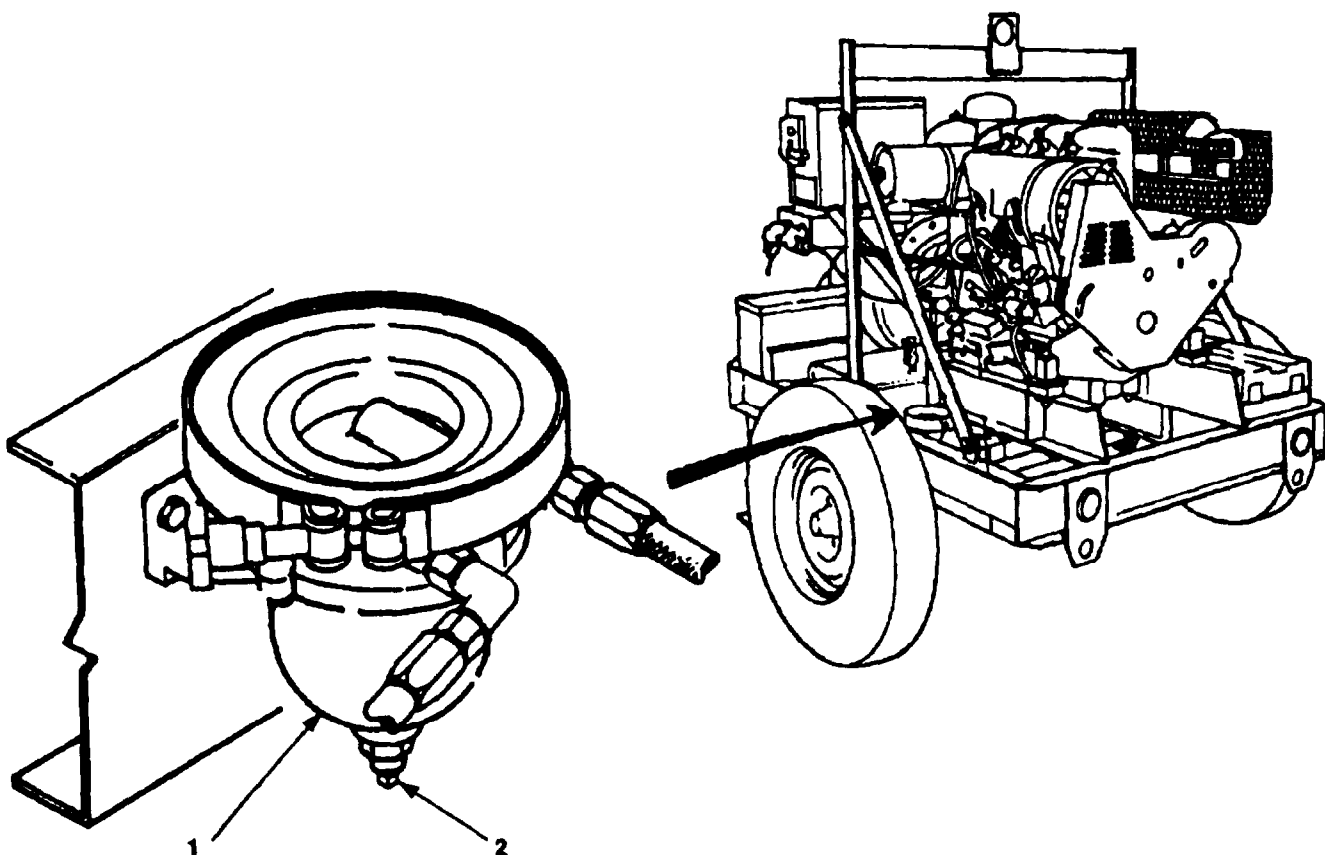

Figure 3-3. Water Separator Servicing (Models 350 PAW and W-87012).
- a. Place suitable container under water separator (figure 3-3 or 3-3.1).
- b. On models 350 PAW and W-87012, remove plug (figure 3-3,2) or open petcock drain valve and drain water from separator until clean fuel is observed. When clean fuel is observed, close drain valve or install plug.